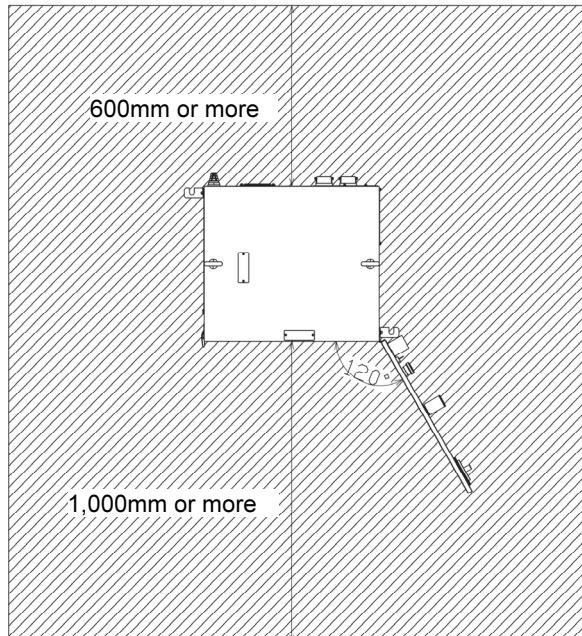

Fig. 2.4.5 Installation of robot controller
- (3) To install a robot controller and welding power supply, etc. on a high place (two or more meters in height) such as a frame base, a foothold as shown on the diagonal line space of Fig 2.4.5. is required so that adjustment and maintenance, etc. work can be performed.
(4) Install the controller so that the height from the working floor to the breaker handle is between 0.6 m to 1.9 m.